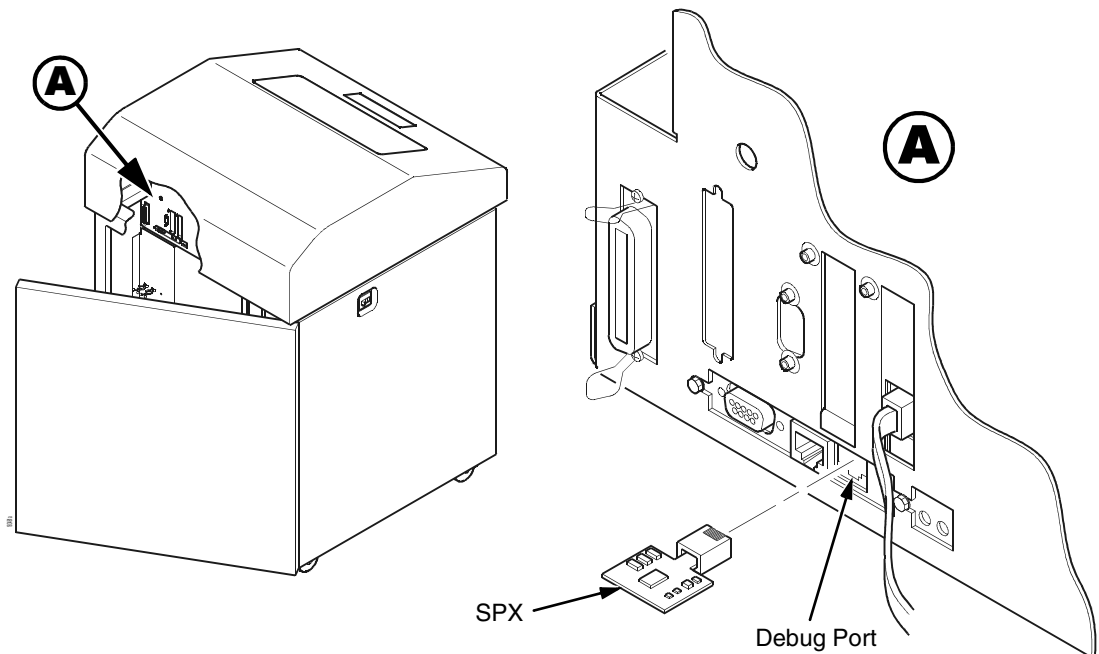

Figure 26. Inserting The SPX into the Debug Port
2. On cabinet models, open the rear door. On pedestal models, refer to Figure 26 to locate the debug port at the rear of the printer.